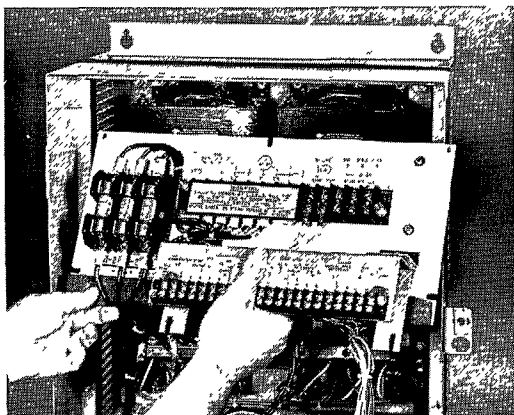

FIGURE 41
4. Remove the five nuts with captive washers holding the top barrier in place on the enclosed controllers or the two nuts and two screws on the chassis type controllers and remove the top barrier. (see Figure 41)